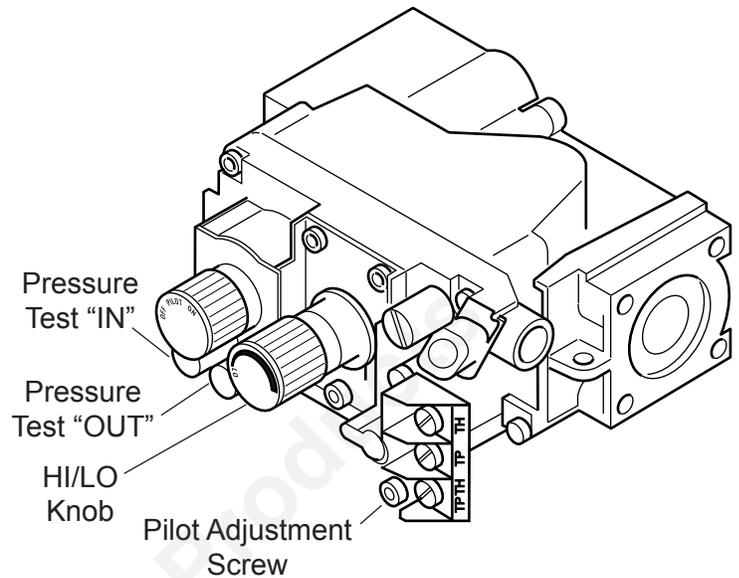

Figure 29 - Gas Pressure Check at Gas Valve
5. To check gas pressures at valve, turn captured screw counter clockwise 2 or 3 turns and then place tubing to pressure gauge over test point. Turn unit to high. See Figure 29. After taking pressure reading, be sure and turn captured screw clockwise firmly to reseal. Do not over torque. Check test points for gas leaks with a soap and water solution.